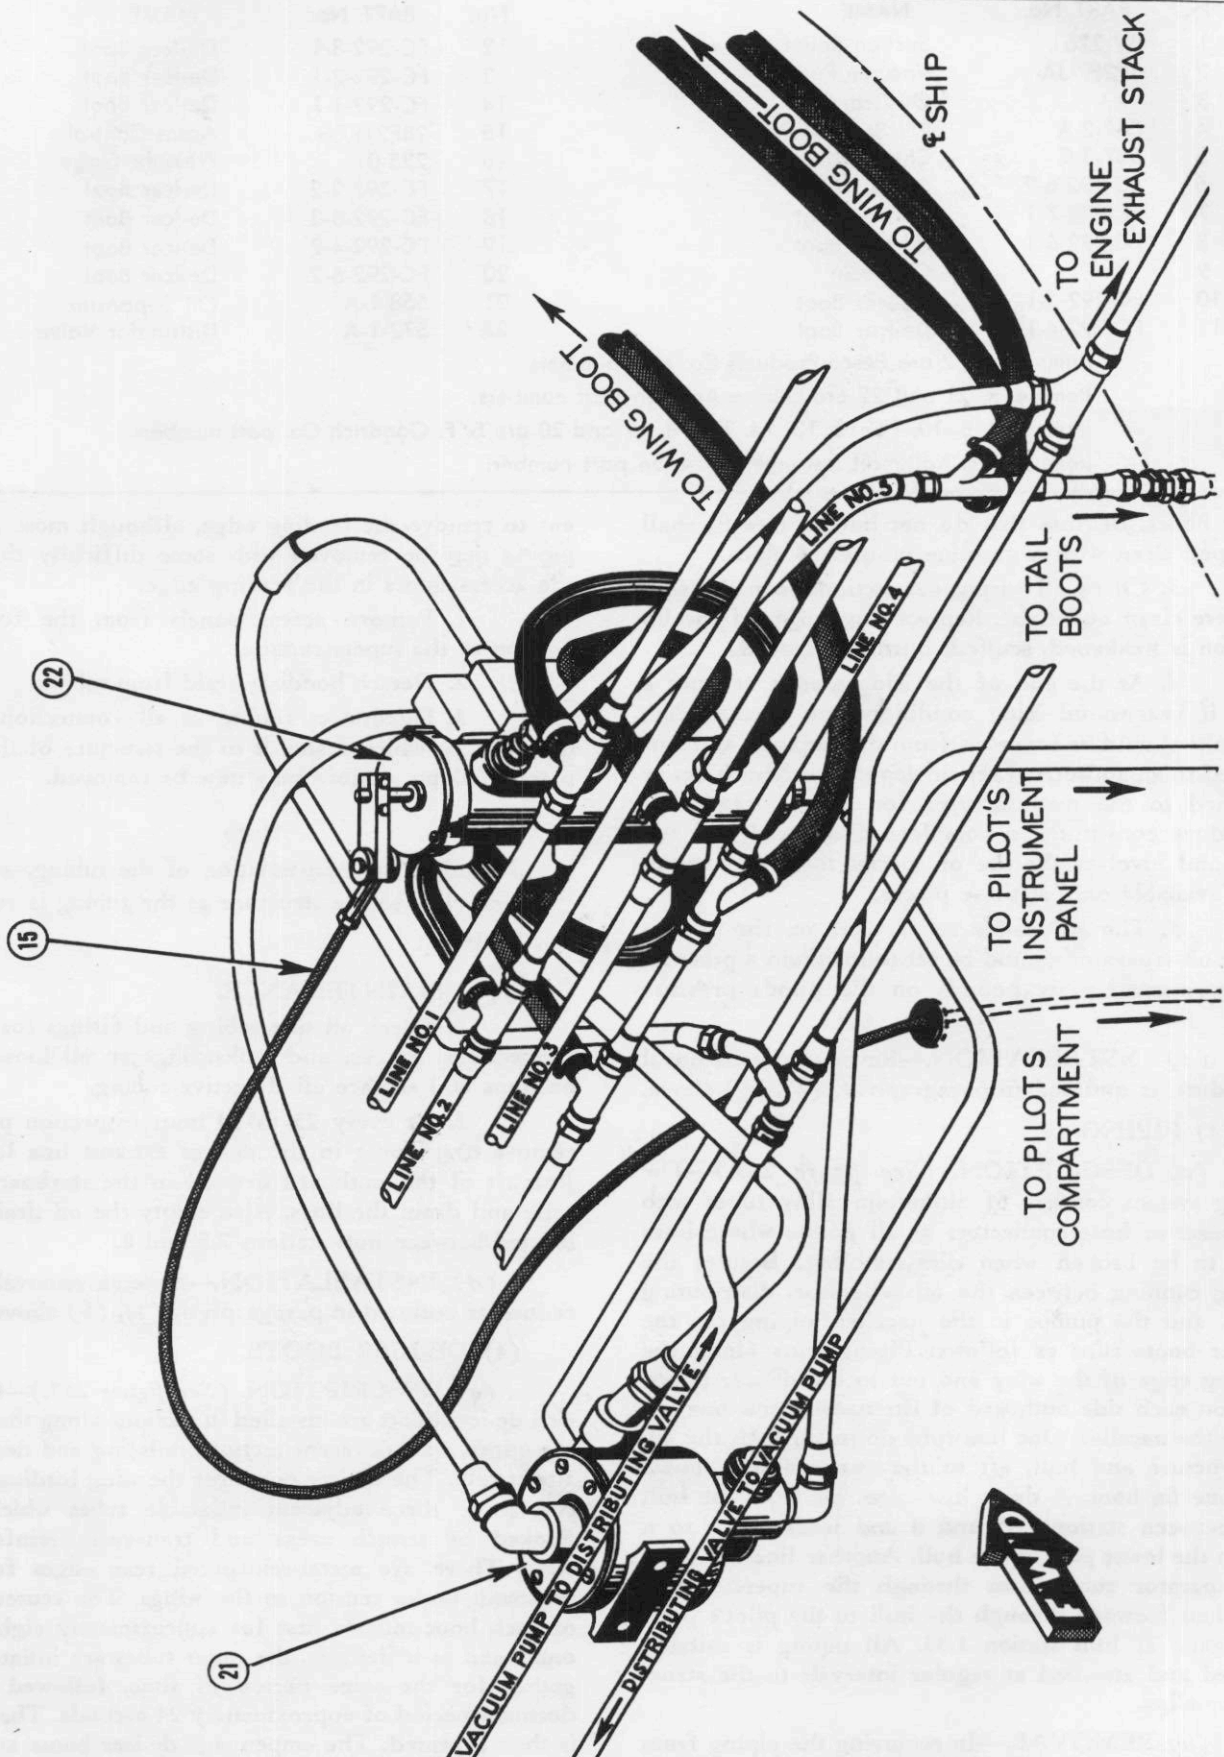

Figure 263—Wing and Tail De-Icing System (PBY-5 Only)
(1) GENERAL. (See figure 263.)—On PB5-5 airplanes with serial numbers 08124 through 08348, a Goodrich boot de-icer system is installed for wing leading edges and the tail stabilizer and fin leading edges. The system consists of wing and tail de-icer boots; a distributing valve and oil separator in the leading edge of the wing center section near the center line of the airplane; and one oil separator, a check valve, and a suction relief valve in each nacelle.
(a) DESCRIPTION. (See figure 263.)—A five port distributing valve (Eclipse 572-2-A) integral with electric motor is installed in the leading edge between stations 1 and 2 on the port side. It receives air pressure from the vacuum pumps in each nacelle through check valves (Eclipse 557) and supplies pressure to five lines which actuate the de-icer boots. The order and timing of the firing of the boots are controlled by the distributing valve. Operation of the valve is managed by an Arens flexible control cable which is connected to a lever arm on the valve and runs down through the superstructure and forward to the pilot's compartment. Adjacent to the valve, between stations 2 and 3 the oil separator (Eclipse 558-1-A) is installed. From it, runs a line to the pressure gage on the instrument panel.
(a) DESCRIPTION. (See figure 263.)—The piping system consists of aluminum alloy tubes with bulkhead or hose connectors at all points where lines have to be broken when disassembling. Besides the piping running between the oil separator, distributing valve, and the pumps in the nacelles, piping for the de-icer boots runs as follows: Piping runs along the leading edge of the wing and out to the de-icer boots, four on each side outboard of the nacelle and one between the nacelles. One line runs down through the superstructure and hull, aft to the two stabilizer boots and one fin boot. A drain line takes off from the hull line between stations 7.5 and 8 and leads down to a can in the lower part of the hull. Another line from the oil separator runs down through the superstructure and then forward through the hull to the pilot's pressure gage at hull station 1.33. All piping is suitably bonded and attached at regular intervals to the structure by clips.
(a) DESCRIPTION. (See figure 263.)—Goodrich de-icer boots are installed in sections along the leading edges, with different sections inflating and deflating alternately. The de-icer boots for the wing leading edge consist of three adjacent inflatable tubes which are flanked by stretch areas and transverse reinforcing strip. There are metal-reinforced rear edges for attachment under tension to the wings. The center tube of each boot inflates first for approximately eight seconds, and as it deflates, the outer tubes are inflated together for the same period of time, followed by a dormant period of approximately 24 seconds. The cycle is then repeated. The empennage de-icer boots are single inflatable tube type. The boots and aluminum fair-